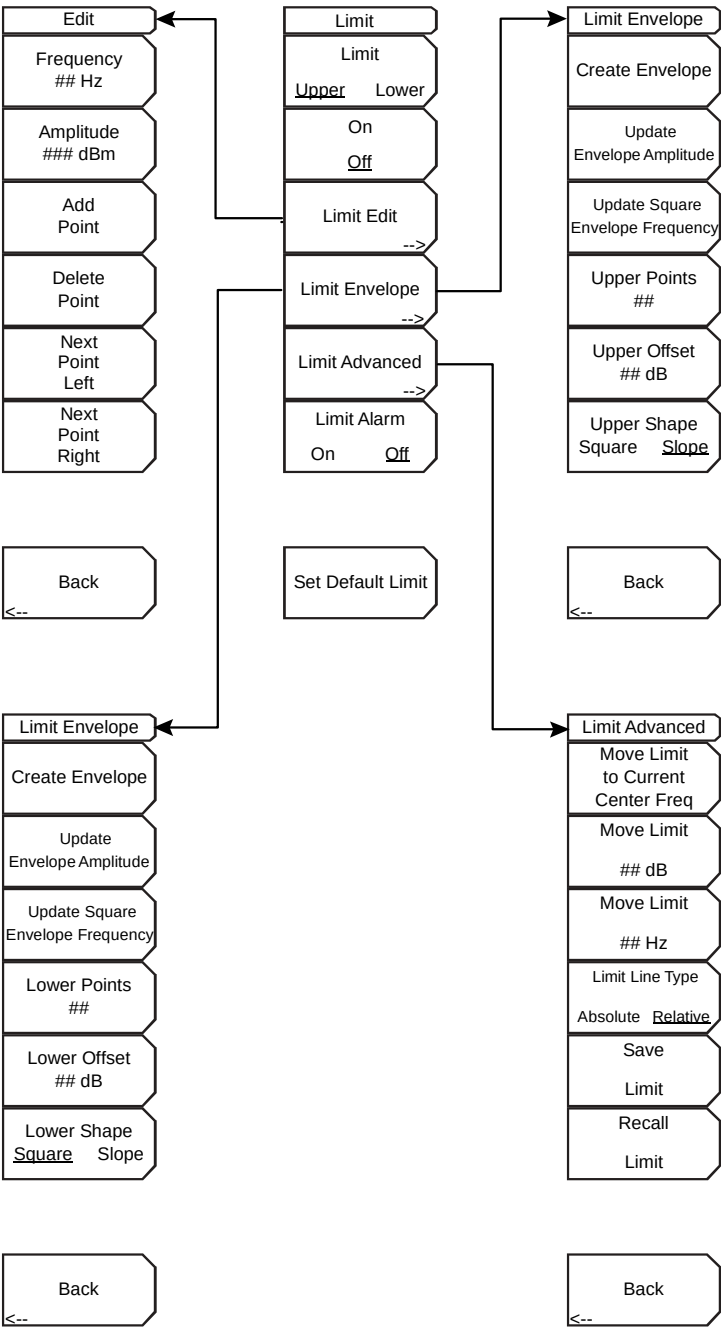

Figure 3-5. Limit Menu Soft Keys
To access the functions under the Limit menu, select the **Shift** key, then the **Limit** (6) key. The Limit menu soft keys are shown in Figure 3-5.